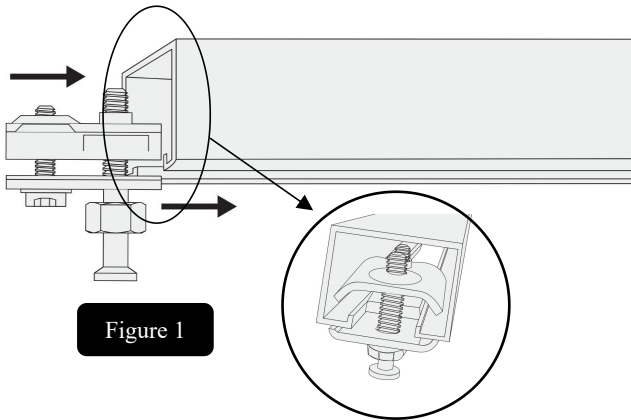

Figure 1
Step 1: Insert upper pivot into track as shown (Figure 1).